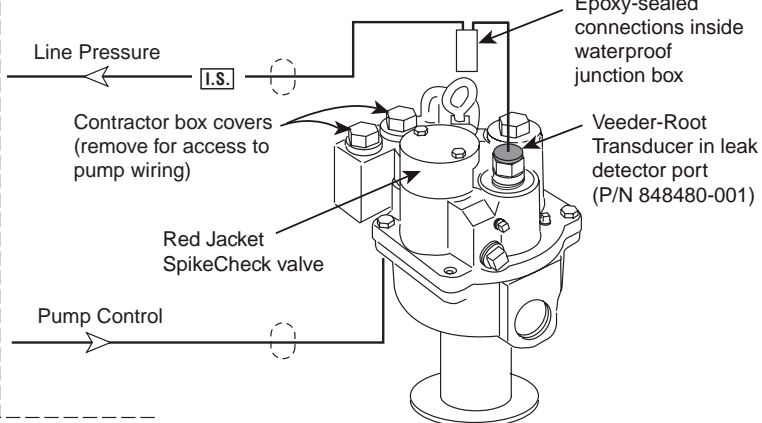

Figure 7. VSFC standalone installation examples with separate conduits for pressure and pump control signals
- Figure 7 illustrates RJ pump connections for stand-alone VSFC installations with separate conduit for pressure and pump control wirings.